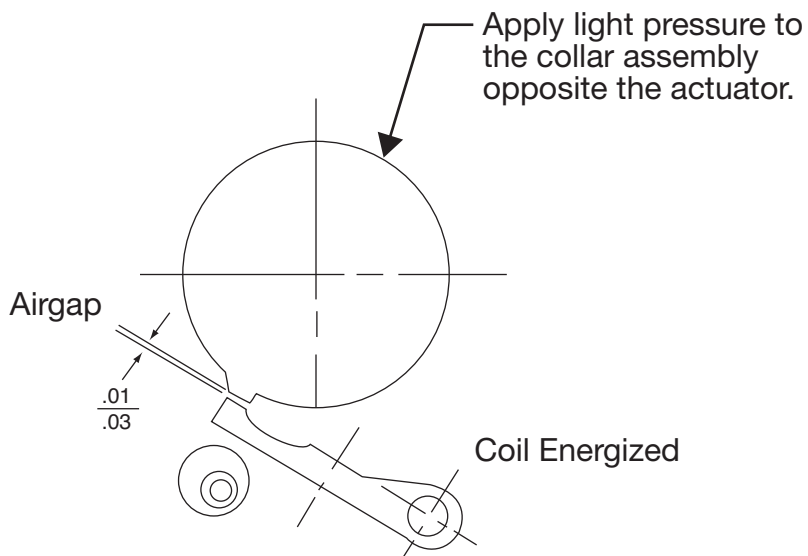

Figure 5
3. Mechanical binding of plunger.	<p>A. Realign coil. As shown in Figure 5, with the coil energized, apply light pressure to the opposite side of the control collar, and set the actuator/cam tip clearance (airgap) at .010" to .030". Note: For AC coils with an actuator limit stop (ALS) option, the actuator should hit the ALS and bottom simultaneously.</p> <p>B. If Step 3A fails to resolve the problem, replace the coil assembly and perform Step 3A again to realign the coil.</p>